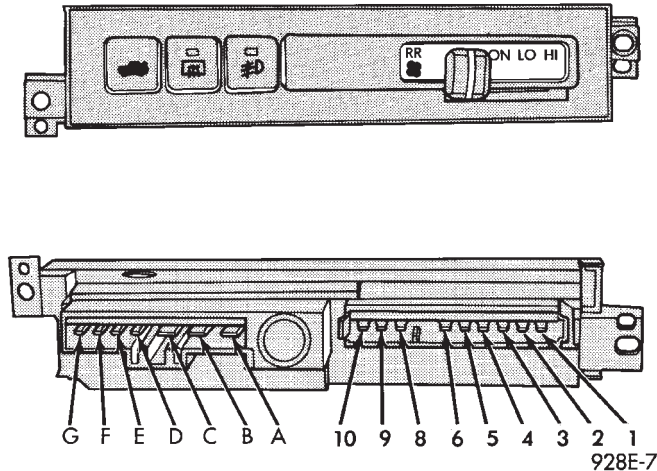

Fig. 30 Accessory Switch Carrier
The accessory switch carrier consist of one or more of the following switches (Fig. 30).
(2) Remove accessory switch carrier from the panel (Fig. 30).
(3) Disconnect wire connectors.
(4) For installation reverse above procedures.
For the blower switch on the instrument panel, refer to Accessory Switch Carrier Replacement (Fig. 30).